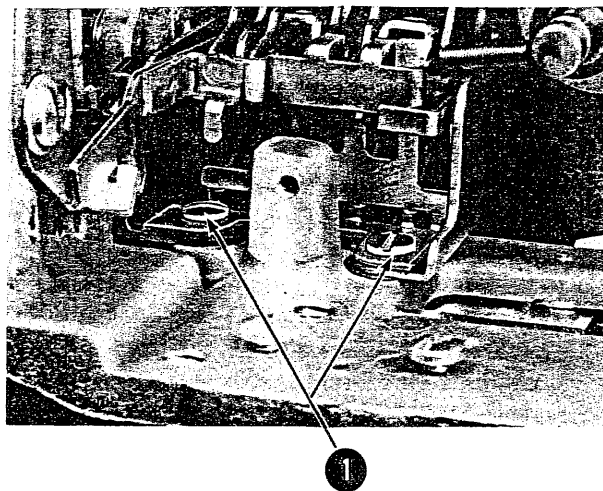

Figure 4-51. Operational-Interposer-Bracket Removal
4. Remove the six (two shown) mounting screws (No. 1, Figure 4-51).